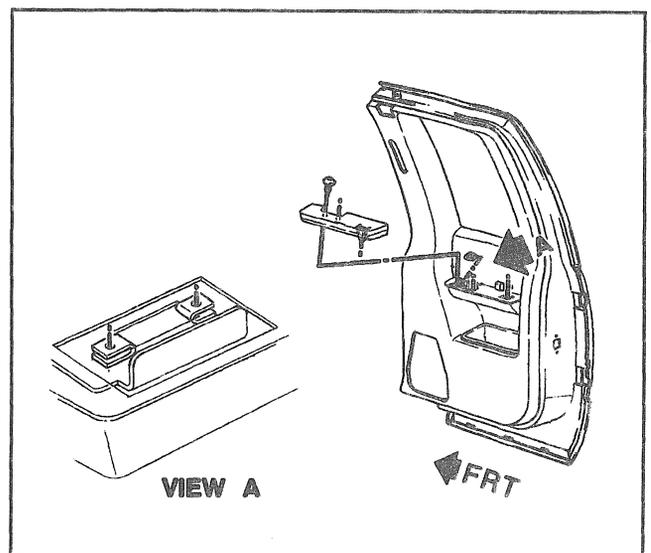

Figure 36—Rear Seat Access Door Armrest
↔ Remove or Disconnect (Figures 36 and 37)
1. Trim panel armrest screws (Figure 36).
→← Install or Connect (Figures 36 and 37)
5. Trim panel armrest screws (Figure 36).